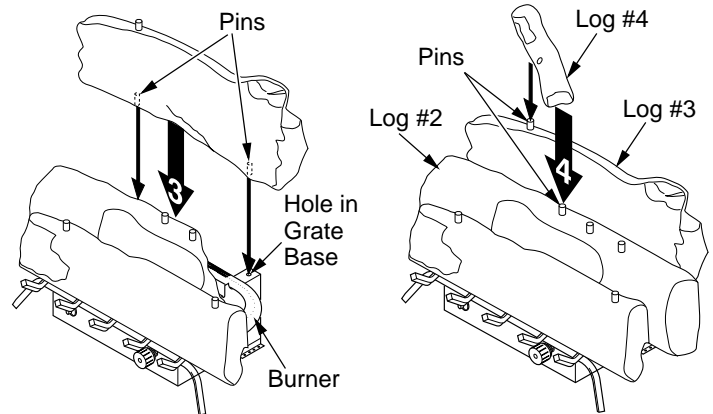

Figure 29 - Installing Rear Log (#3) (CCL3930NTA Shown) Figure 30 - Installing Crossover Log (#4) (CCL3930NTA Shown)
3. Locate pins on the bottom of back log (#3). Slide these pins into the holes in the grate base behind the burner (see Figure 29).